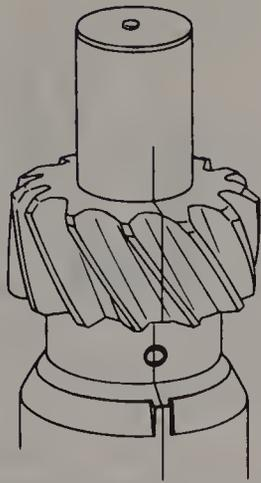

Fig. 13.23 Align the distributor housing and pinion gear marks as shown (Sec 5)
- c) Align the distributor housing match mark with the pinion gear match mark as shown in Fig. 13.23 and install the distributor.